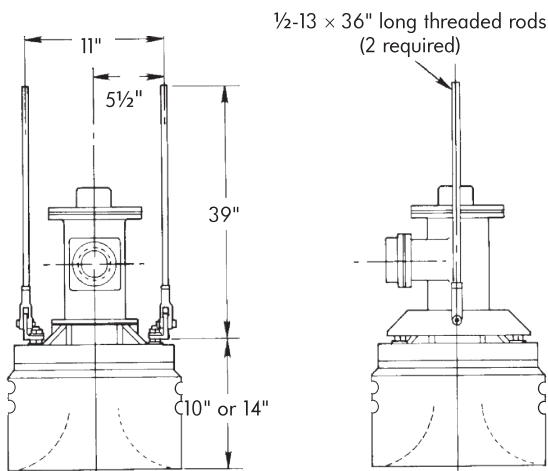

Figure 2
- B. 4832 Burners with conventional flangeless wall mountings can be suspended in the roof with a 4832BR (round) or 4832BS (square) suspension adapter set (see Figure 2). Fabricated steel strap supports are suitable for 4831 Burners. Do not remove nuts that hold mounting plate to tile. Threaded shanks are long enough to permit use of a support strap and extra nut.